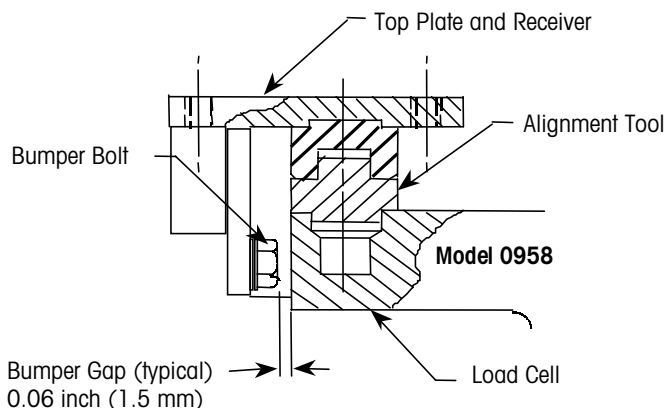

Figure 3-7: Centerlign Module Top Plate Alignment
3. Install an alignment tool in each of the Centerlign weigh modules. See Figure 3-7.